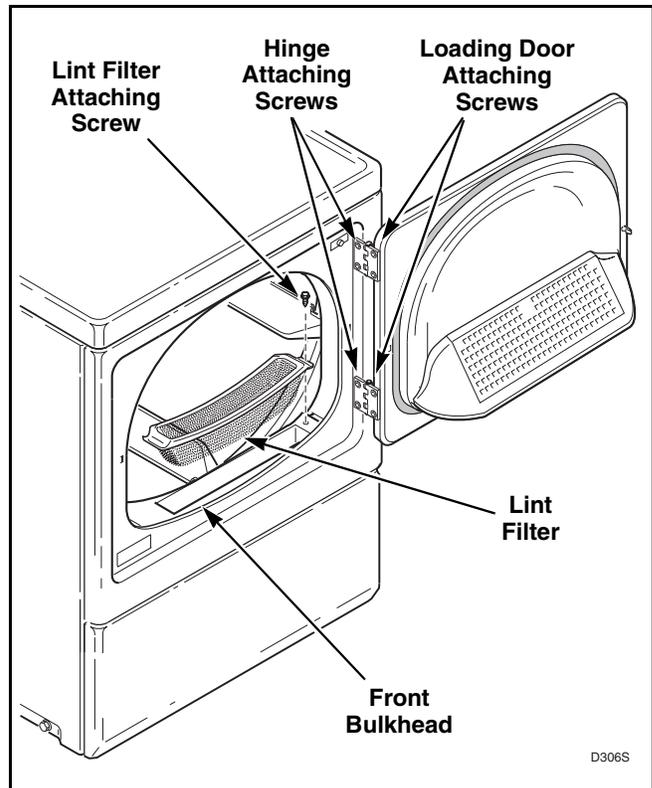

Figure 12
- Open loading door and remove screw from end of lint filter. Refer to *Figure 12*.
- Remove screws holding loading door to hinges. Refer to *Figure 12*.
- Remove four screws holding door assembly to hinges. Refer to *Figure 12*.